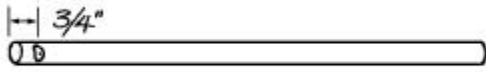

Figure 17
2. Cut a 28-inch length of the wooden dowel rod to make the shaft. Drill a shallow  $\frac{3}{4}$ -inch-diameter socket  $\frac{3}{4}$  inch from one end (Figure 17). Drill a screw hole through the center of the socket, enlarging it on the opposite side so you can countersink a screw.